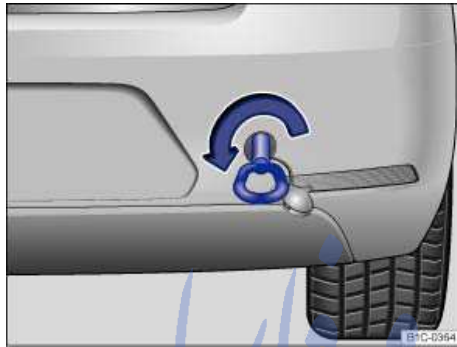

Fig. 177 In the right rear bumper: Installing the towing eye.
There is a threaded hole for the towing eye in the right rear bumper ⇒ fig. 177.
- Screw the towing eye **counterclockwise** into the threaded hole as far as it will go (arrow) ⇒ fig. 177 ⇒ ⚙. Use the lug wrench to turn and tighten the towing eye completely and securely.